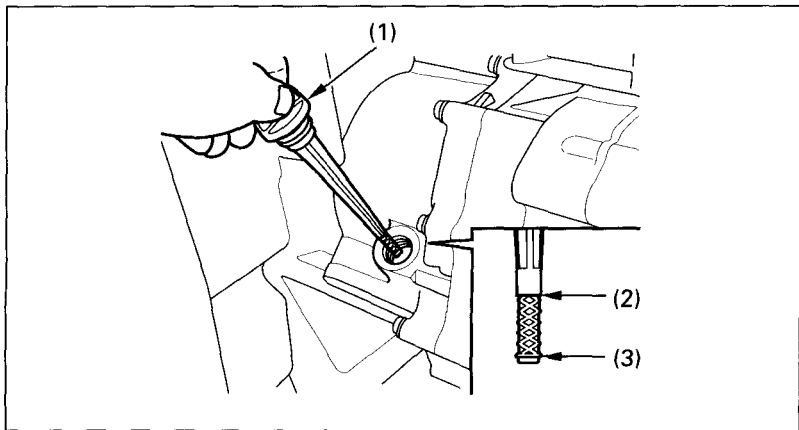

Fig. 4-10 (1) Oil filler cap/dipstick
4. After a few minutes, remove the oil filler cap/dipstick (Fig. 4-10) from the front crankcase cover and wipe it clean.
5. Insert the dipstick without screwing it in, then remove the dipstick and check the oil level. The oil level should be between the upper level mark (2) and the lower level mark (3) on the dipstick.
1. With the **FOURTRAX** on level ground, remove the oil filler cap/dipstick from the front crankcase cover (Fig. 4-10).